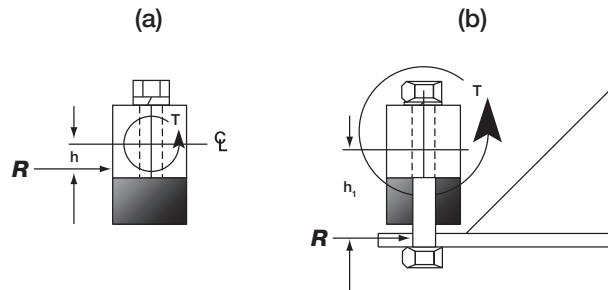

Figure 4-5. Twisting Loads
Typically, a side force does not act exactly at the neutral axis and hence produces a torque or twisting effect in addition to the side force. A load cell can be subjected to a torque (T) in a number of ways. Figure 4-5(a) illustrates a condition where the line of action of a side force is moved away from the neutral axis by a distance (h) resulting in a torque of Rh . Figure 4-5(b) illustrates a situation where the load is hung from the cell using a bolt. Any side force applied by this arrangement has a much larger twisting effect on the cell because of the increased distance (h_1) to the neutral axis.